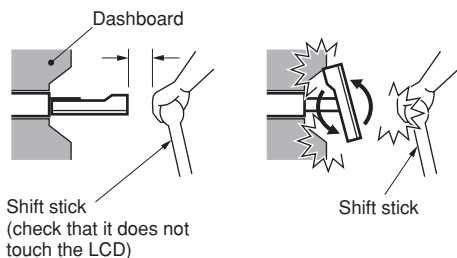

Figure 2
2. This model is used with the LCD panel slid forwards (shell loading system). On some types of cars, the LCD panel may touch the dashboard or shift stick, in which case it cannot be installed. Check that the set will not hamper operation of the shift stick before choosing the place of installation. (Figure 2)